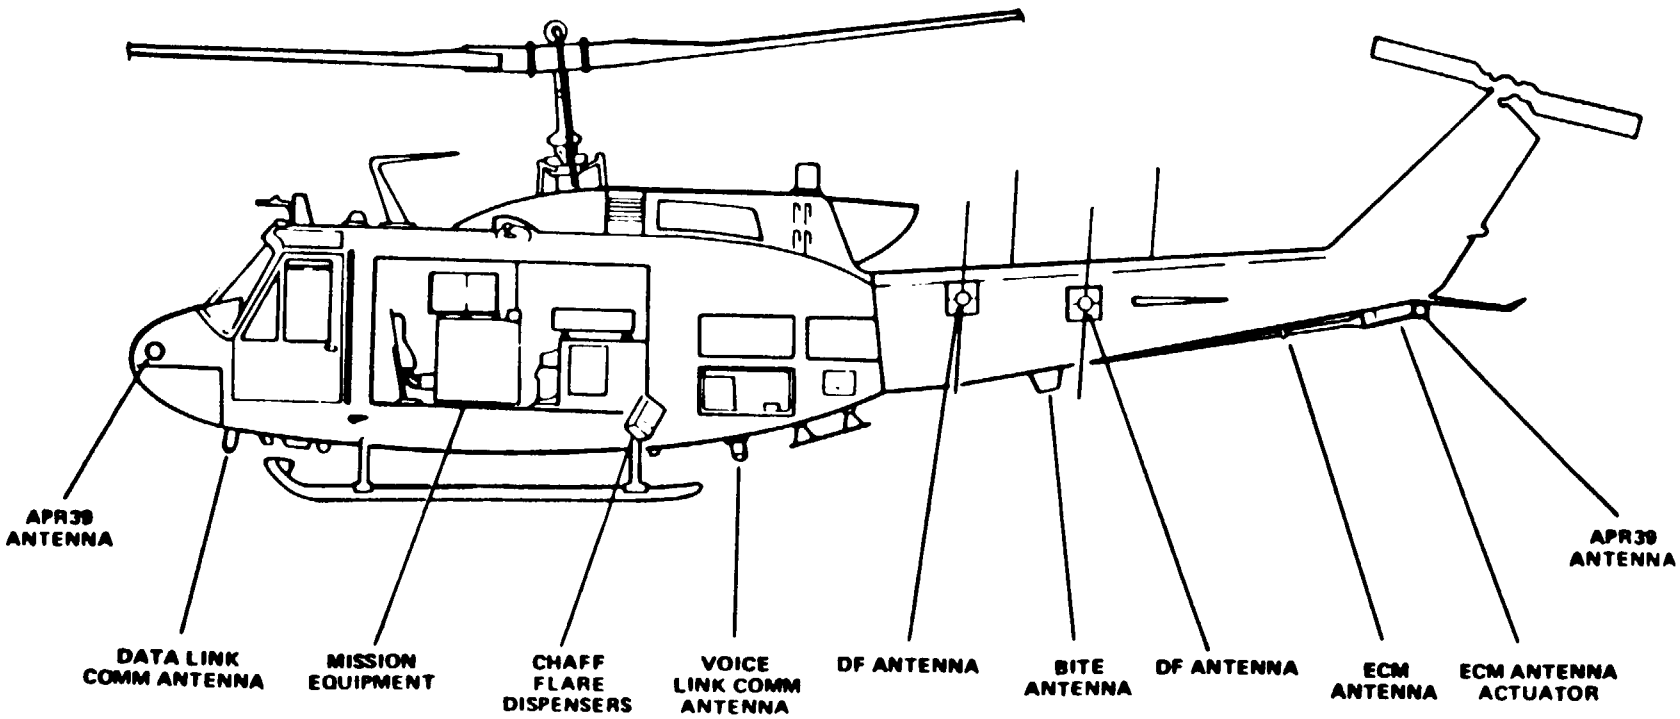

Figure 1-3. EH-1X Helicopter Configuration.
b. General Description. EH-1X Helicopter. The EH-1X (figure 1-3) is a UH-1H helicopter modified to incorporate an AN/ALQ15L(V1) special purpose countermeasures system which includes the following: Refer to TM 55-1520-210-23-2, paragraph 9-6 through 9-18 and TM 32-5865-007-20, Figure FO-20 for maintenance and troubleshooting procedures.
- (1) Cabin mounted operator seat.
- (2) Cabin mounted mission racks.
- (3) Data and voice link communication antennas mounted to the lower external fuselage.
- (4) BITE antenna mounted to the lower external surface of the tailboom.
- (5) ECM antenna assembly mounted to the rear lower section of the tailboom.
- (6) DF antennas mounted to the left and right side of the tailboom.